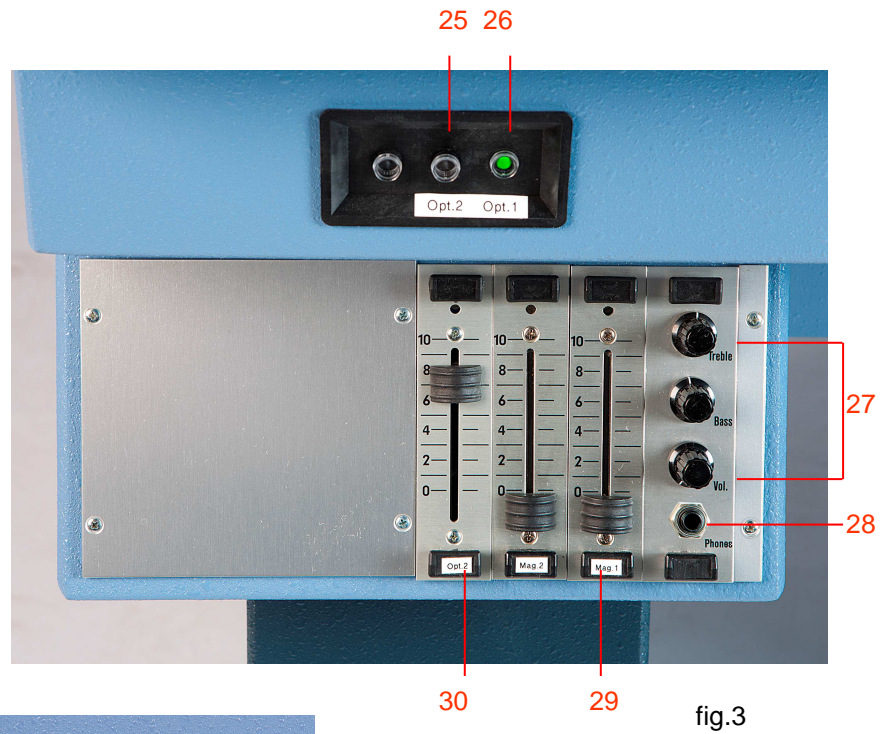

fig.3
5.3 SOUND PREAMPLIFIER SECTION (fig. 3 page 10)